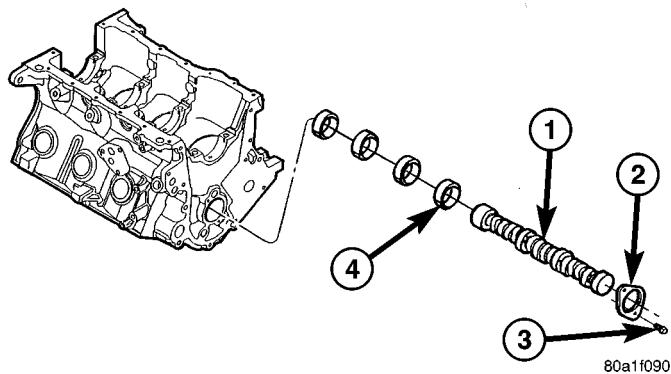
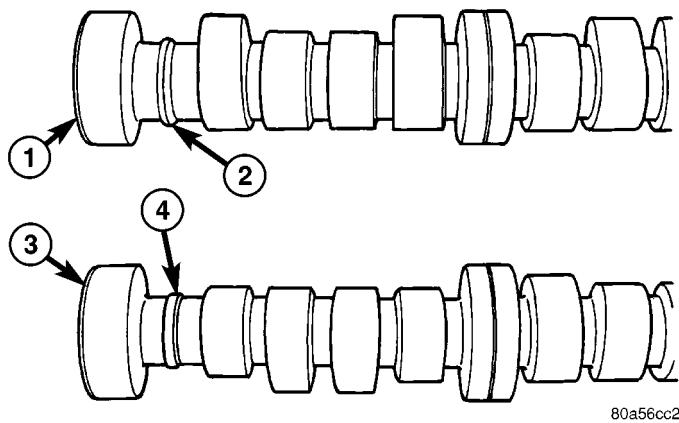

Fig. 49 CAMSHAFT AND BEARINGS
Fig. 50 CAMSHAFT IDENTIFICATION
The nodular iron camshaft is mounted in the engine block and supported with four steel backed aluminum bearings (Fig. 49). A thrust plate, located in front of the first bearing, is bolted to the block and controls the camshaft end play (Fig. 49). To distinguish camshafts between the 3.3L and 3.8L engines, a cast-in ring is located between the rear bearing journal and rear lobe (Fig. 50). The 3.3L engine application is as-cast only. The 3.8L engine application the cast ring is machined off.
- (1) Remove the engine assembly from vehicle (Refer to 9 - ENGINE - REMOVAL).
- (2) Remove the cylinder heads (Refer to 9 - ENGINE/CYLINDER HEAD - REMOVAL).
- (3) Remove the timing chain and camshaft sprocket (Refer to 9 - ENGINE/VALVE TIMING/TIMING BELT/CHAIN AND SPROCKETS - REMOVAL).
- (4) Remove the hydraulic lifters (Refer to 9 - ENGINE/ENGINE BLOCK/HYDRAULIC LIFTERS (CAM IN BLOCK) - REMOVAL). Identify each tappet for reinstallation in original location.
- (5) Remove camshaft thrust plate (Fig. 49).
- (6) Install a long bolt into front of camshaft to facilitate removal of the camshaft.
- (7) Remove the camshaft (Fig. 49), being careful not to damage cam bearings with the cam lobes.
- (1) Lubricate camshaft lobes and camshaft bearing journals with engine oil.
- (2) Install a long bolt into the camshaft to assist in the installation of the camshaft.
- (3) Carefully install the camshaft in engine block.
- (4) Install camshaft thrust plate and bolts (Fig. 49). Tighten to 12 N·m (105 in. lbs.) torque.
- (5) Measure camshaft end play. (Refer to 9 - ENGINE - SPECIFICATIONS) If not within specifications, replace thrust plate.
- (6) Install the timing chain and sprockets. (Refer to 9 - ENGINE/VALVE TIMING/TIMING BELT/CHAIN AND SPROCKETS - INSTALLATION)